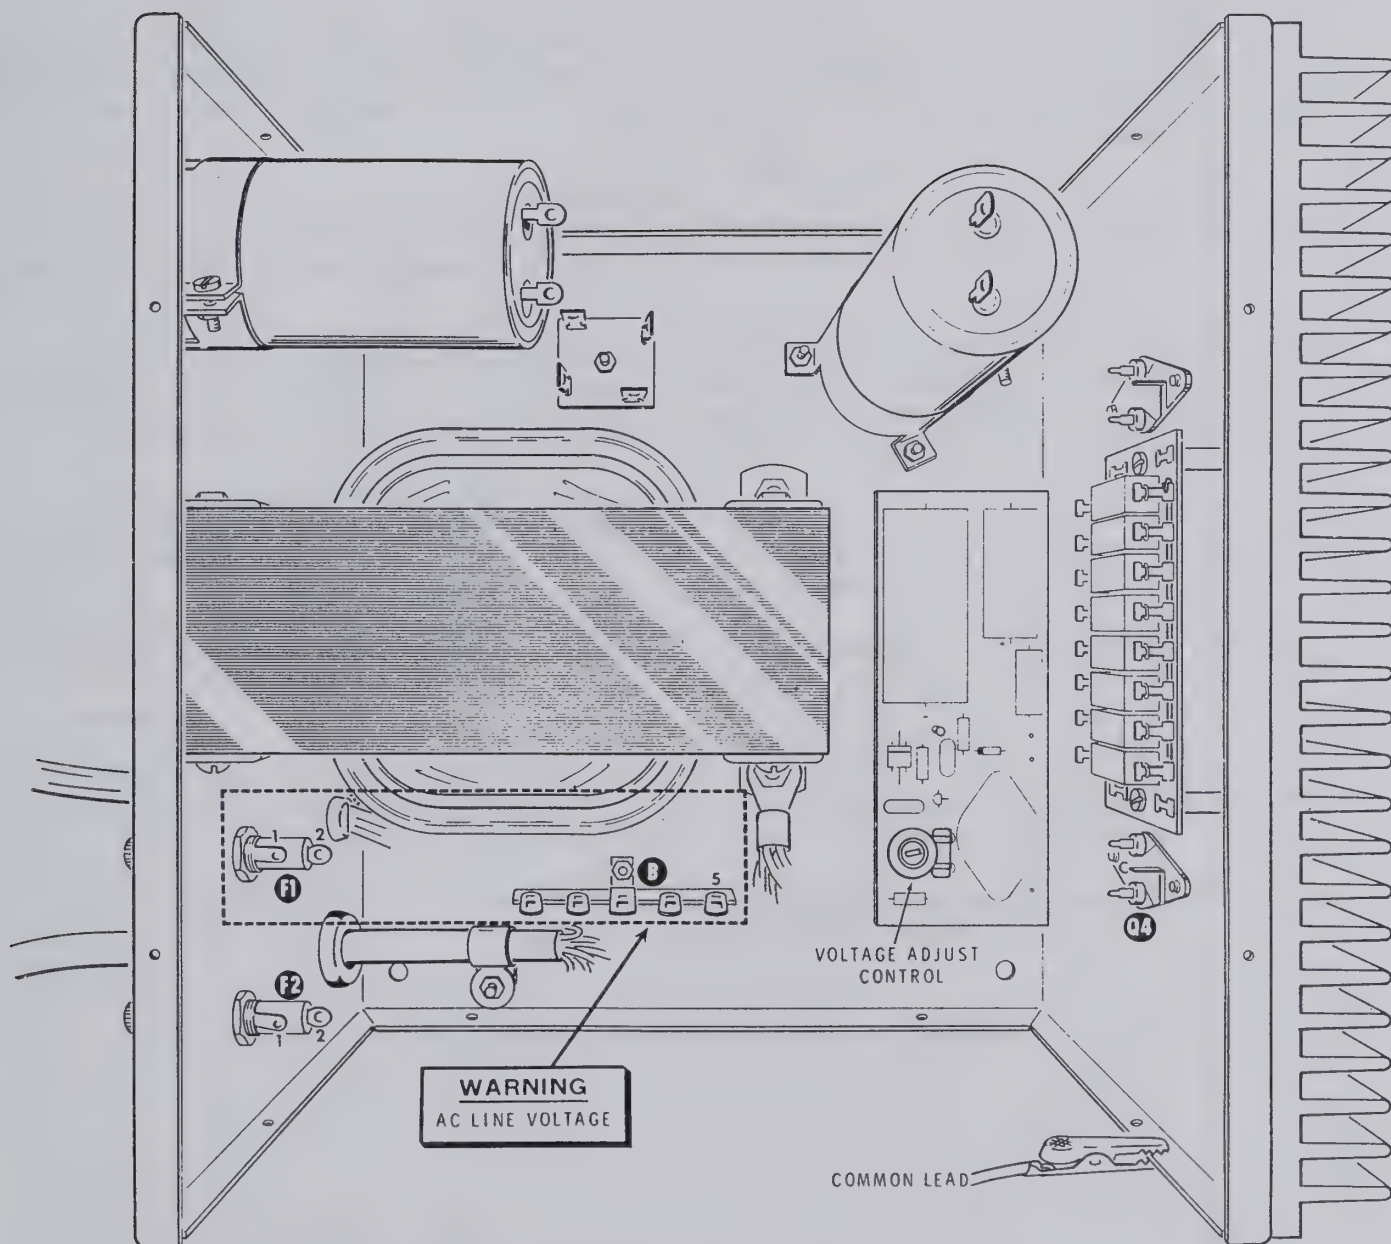

Figure 1
**CAUTION:** When the line cord is connected to an AC outlet, AC voltage will be present at several places on the chassis, as shown in Figure 1. Be careful you do not contact this voltage because an electrical shock will result.